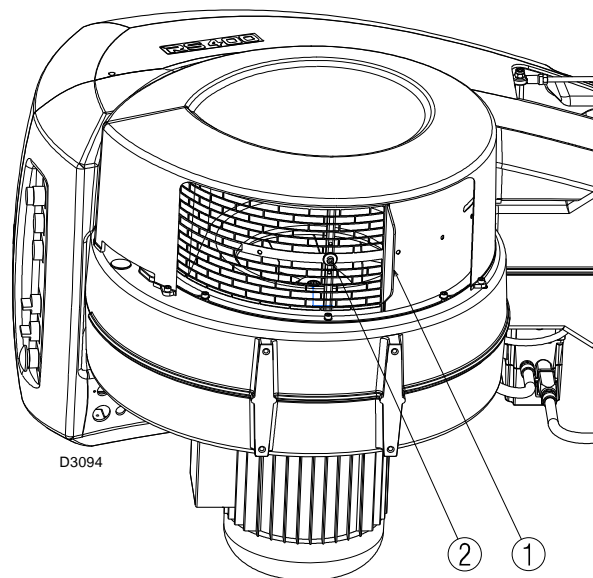

Fig. 50
- Loosen screw 2)(Fig. 50) under the burner's intake and close grille 1) progressively until you achieve the required output.